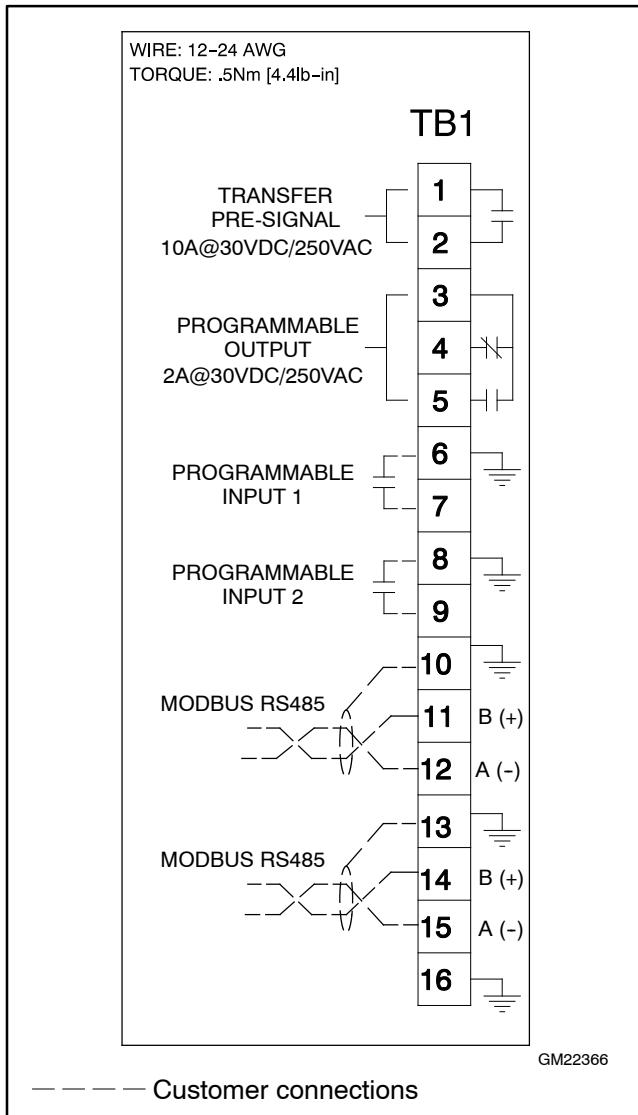

Figure 12-3 Terminal Strip TB1 Connections
3. Connect the Modbus® input and output to the terminals shown in Figure 12-3. Use #12-24 AWG twisted-pair shielded cable; Belden cable #9841 or equivalent is recommended. Connect A to negative (-), B to positive (+), and the shield to ground as shown in Figure 12-3.